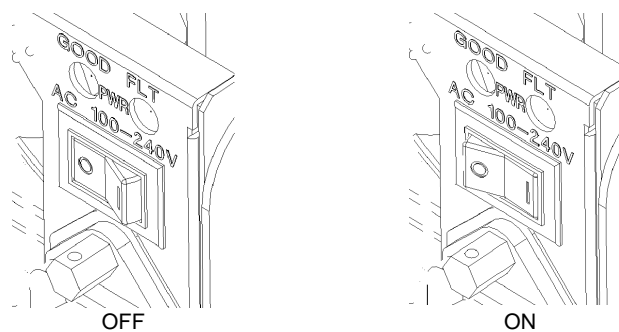

Figure 2-10. Power Supply Switch
1. Check that the power switch on the disk array unit and those on the host system, host bus adapter, and FC-AL switch are all set to OFF. See Figure 2-10.